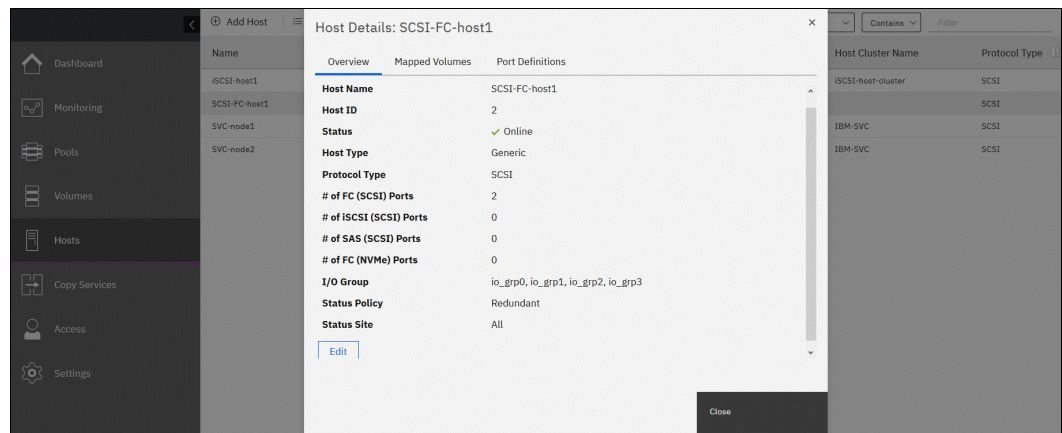

Figure 7-50 Host properties overview
2. The Host Details window opens (see Figure 7-50).